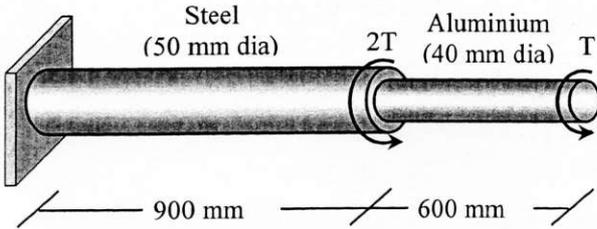

Figure 1
1. A compound shaft consisting of a steel segment and an aluminium segment is acted upon by two torques as shown in **Figure 1**. Determine the maximum permissible value of T subject to the following conditions: $\tau_{steel} \leq 84 \text{ MPa}$, $\tau_{aluminium} \leq 55 \text{ MPa}$, and the angle of rotation of the free end is limited to 6° . For steel, $G = 84 \text{ GPa}$ and for aluminium, $G = 28 \text{ GPa}$.